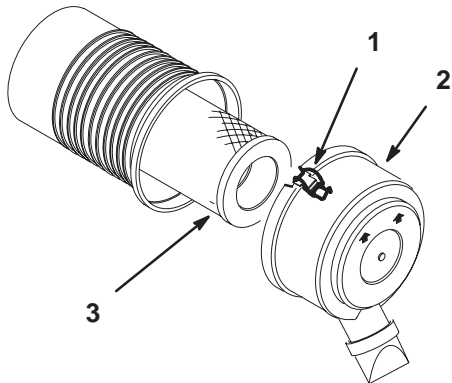

Figure 33
3. Clean around the air cleaner to prevent dirt from getting into the engine and causing damage. Loosen the retaining clips and remove the air cleaner cover (Fig. 33).
4. Carefully remove the filter from the compartment (Fig. 33).
1. Carefully slide the element into the compartment (Fig. 33).
2. Place the air cleaner cover into the compartment and latch the retaining clips (Fig. 33).